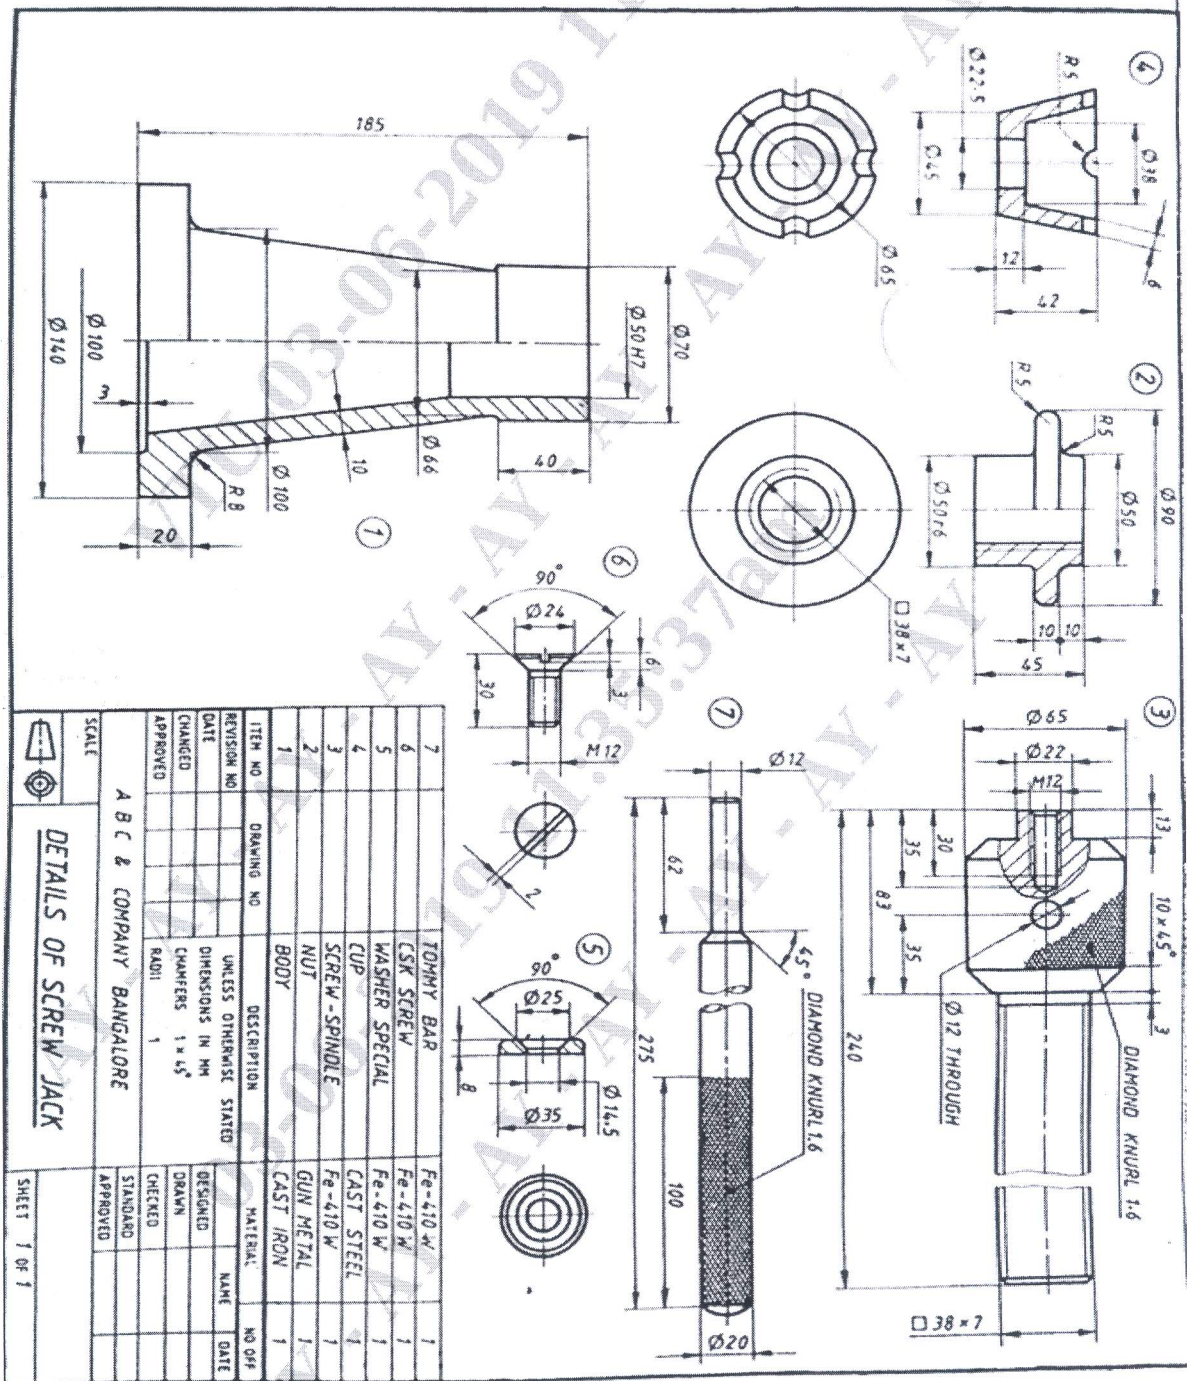

Figure 2: Details of screw jack
Q.No.5 Figure 2 shows the details of a screw jack. Assemble the parts of the screw jack and show the following views.